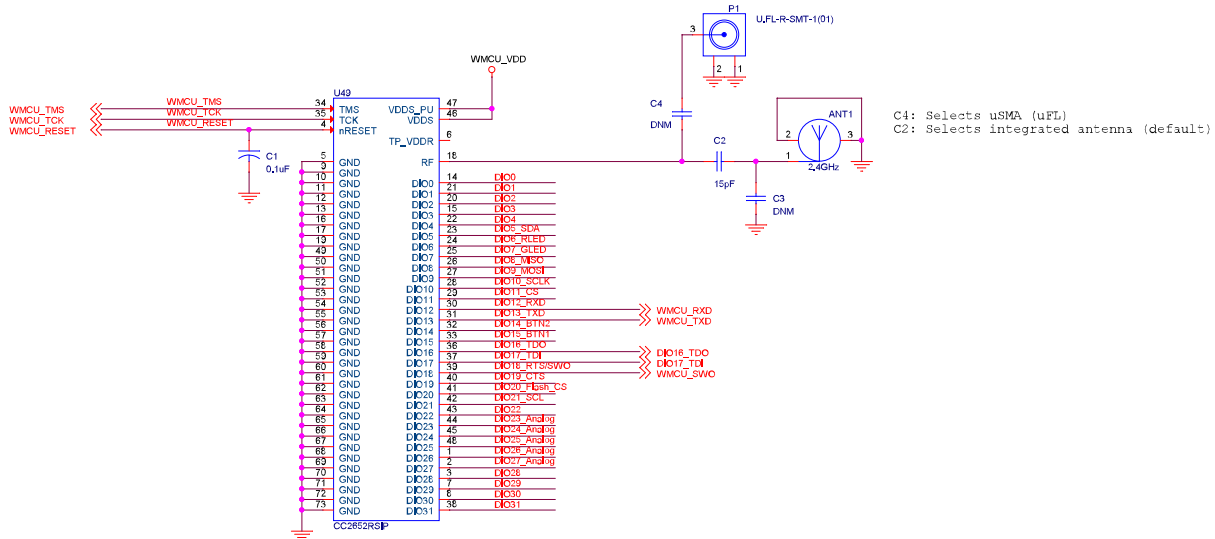

Figure 10-1. CC2652RSIP Typical Application Schematic
Figure 10-1 shows the typical application schematic using the CC2652RSIP module. For the full reference schematic, download the LP-CC2652PSIP Design Files.
Table 10-1 provides the bill of materials for a typical application using the CC2652RSIP module in Figure 10-1.
In order to meet the module power-on-reset requirements, an external 0.1 μ F capacitor is required on the nRESET pin during power ON. In addition, VDD5 (Pin 46) and VDD5_PU (Pin 47) should be connected together. If the reset signal is not based upon a power-on-reset and is derived from an external MCU, then the external capacitor will not be needed and VDD5_PU (Pin 47) should be No Connect (NC). Please refer to Figure 10-1 for the recommended circuit implementation and Table 10-1 for the recommended 0.1 μ F capacitor.